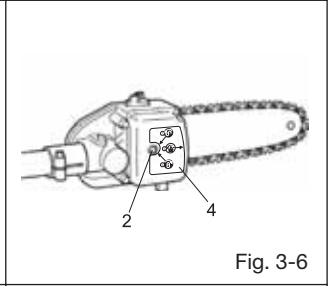
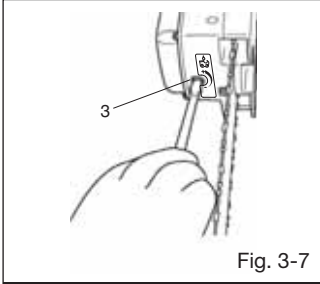

Fig. 3-6
Fig. 3-7
- Loosen the fixing screw (2) one turn. (Fig. 3-6)
- Turn the adjusting screw (3) clockwise to decrease the quantity and turn it counterclockwise to increase the quantity. (Fig. 3-7)
- Do not try to turn the screw (3) clockwise beyond 1 turn from its most counterclockwise position or the maximum quantity discharged position.
- After adjustment has been made, tighten fixing screw (2). (Fig. 3-6)